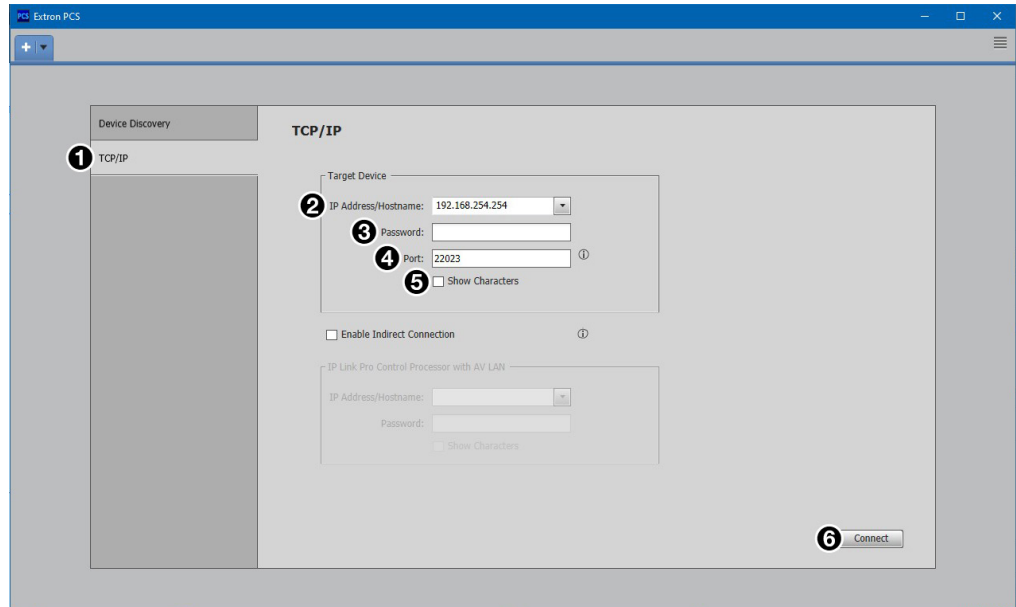

Figure 22. TCP/IP Panel
1. Click the **TCP/IP** tab (see figure 22, 1).
2. In the **IP Address/Hostname** field (2), enter the IP address of the desired device.